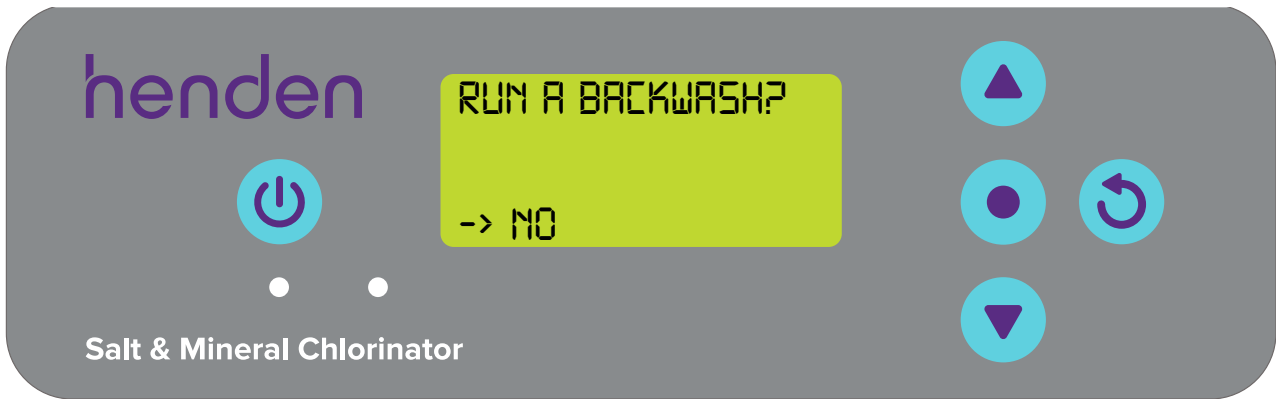

Figure 9.60
- In the backwash menu, use the   **menu up/down** buttons to toggle ON/OFF as required (refer Figure 9.60). Then press the  **menu/setting select** button to confirm.